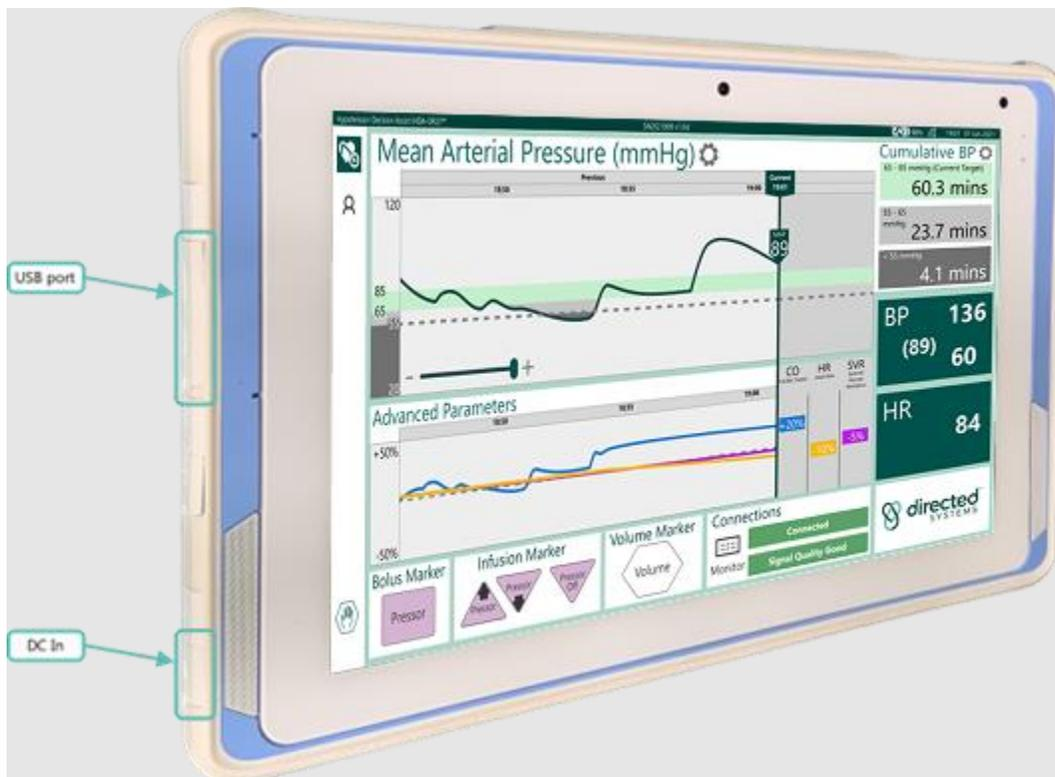

Figure 8: Inputs and Outputs on Advantech Medical Computer
Inputs and outputs on the Touch Screen Computer are detailed in Figure 8.
- a. Connecting via serial cable: the Philips serial cable should be connected via the serial cable to the serial port on the Tablet's dock and to the RS232 port socket on the Philips Monitor (see Figure 8).
4. GE Monitors– the GE serial cable should be connected via a USB-serial adapter and serial cable to the serial port on the Tablet's dock and to the USB port socket on the GE Monitor (see Figure 8).